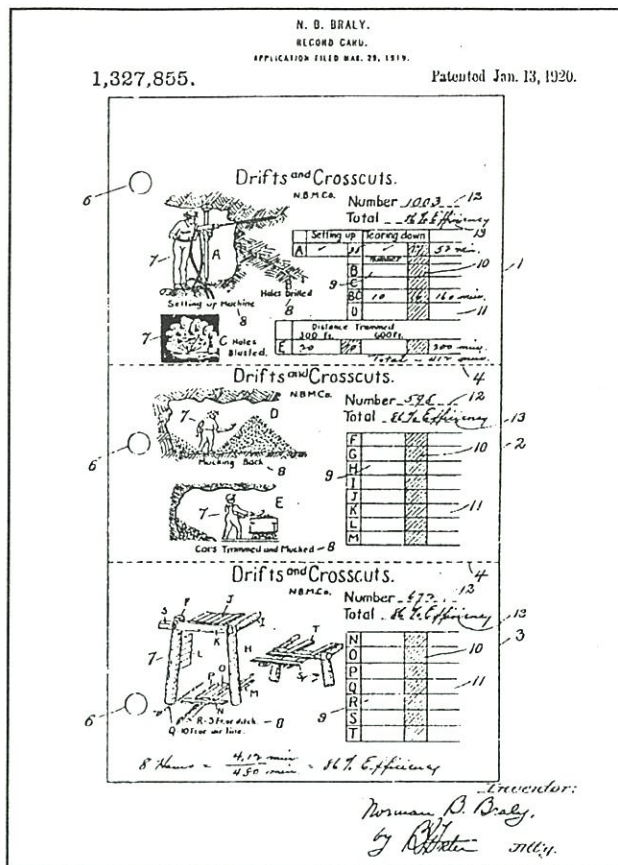

Fig. 1. Patent Office documents for the North Butte Mining Company record cards.
N.B. Braly, General Manager, is credited with development of the cards and he was granted Patent Number 1327855 on January 13, 1920, which is shown in Figure 1. Data acquisition for efficiency calculations was the primary thrust. However, the cards were also a means for miner training, standardization of mining practices, inventory control and miner safety orientation. The cards dealt with a multitude of topics including potty car cleaning, drilling and blast-